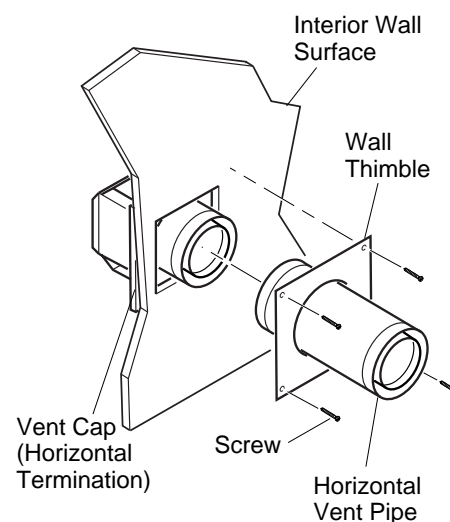

Figure 16 - Connecting Vent Cap with Horizontal Vent Pipe
- Slide the wall thimble over the vent pipe before connecting the horizontal run to the vent cap (see Figure 16).
- Slide the wall thimble against the interior wall surface and attach with screws provided (see Figure 16).